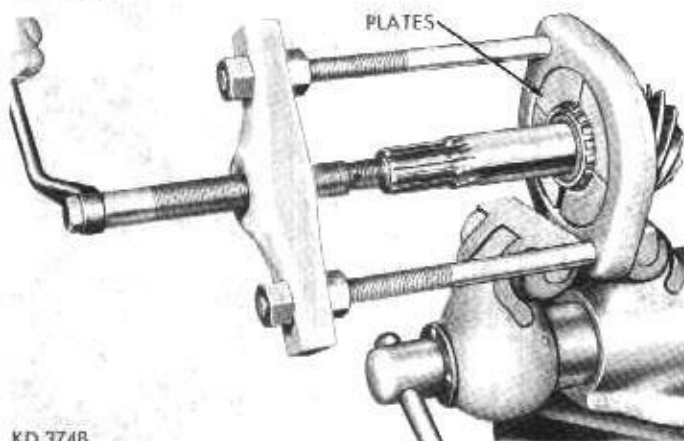

Fig. 18—Removing Drive Pinion Rear Bearing
(1) Remove drive pinion rear bearing from small stem pinion with Tool C-293 and four (4) No. 36 plates, or four (4) No. 37 plates on large stem step pinion or large stem pinion using a collapsible spacer (Fig. 18).
(2) Using a flat end brass drift, remove front and rear pinion bearing cups.